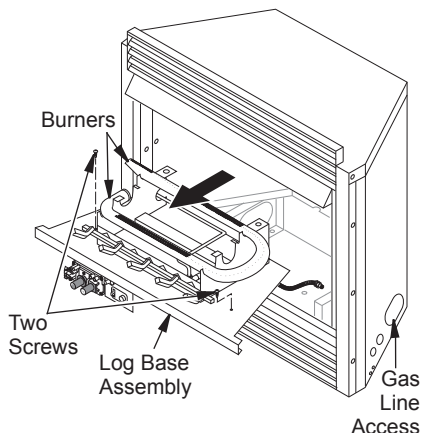

Figure 15 - Removing Log Base Assembly From Fireplace Insert
- Remove screws that attach log base assembly to fireplace insert (see Figure 15). Carefully lift up log base assembly and remove from fireplace insert (see Figure 15).
- Route gas supply line through access opening of fireplace insert (see Figure 15).